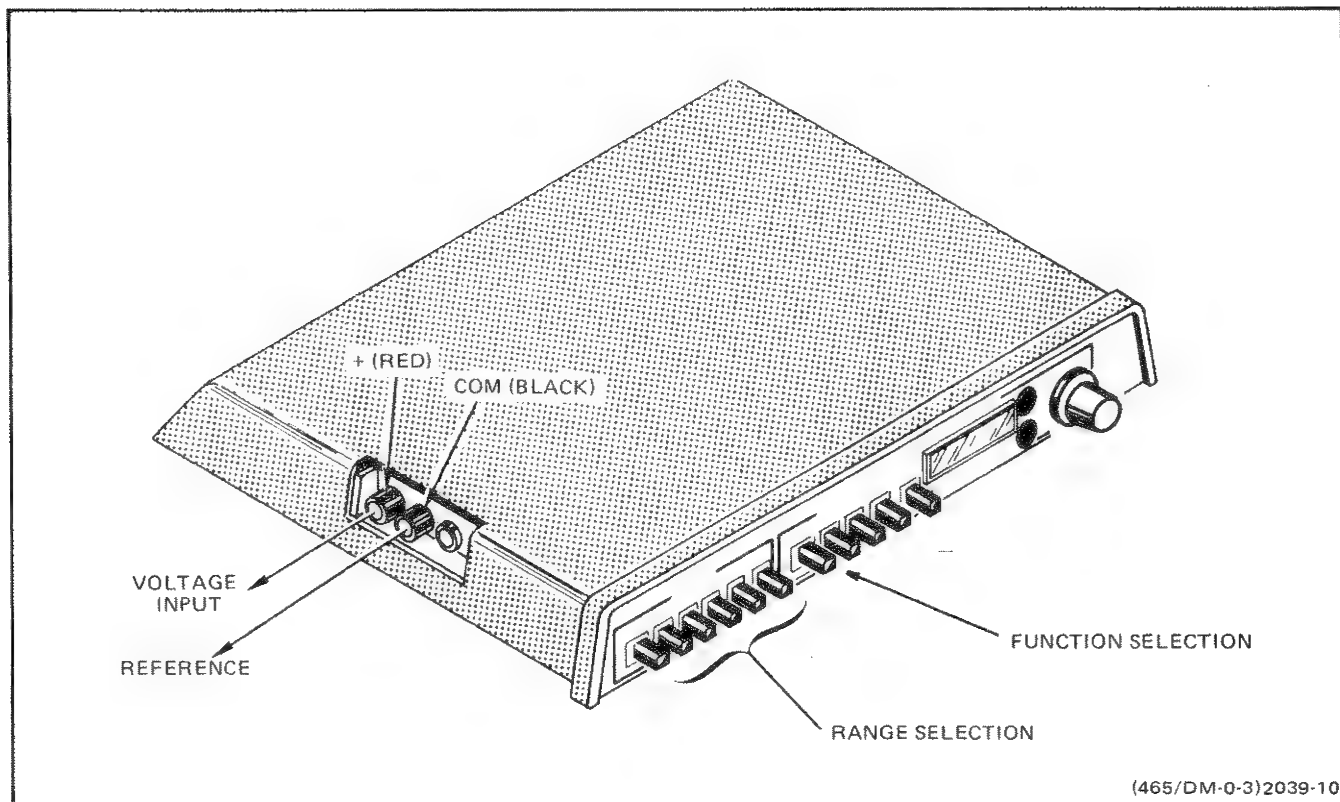

Fig. 9. Volts.
1. Push in the VOLTS FUNCTION button and the 1.2 kV RANGE button. See Fig. 9.